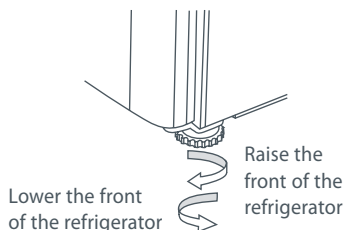

Fig.10 Refrigerator feet
- C** Adjust the front feet down until the refrigerator is leaning backward with the front approximately 10 mm higher than the back. This will ensure a good door closing action. (Refer to Fig.10).